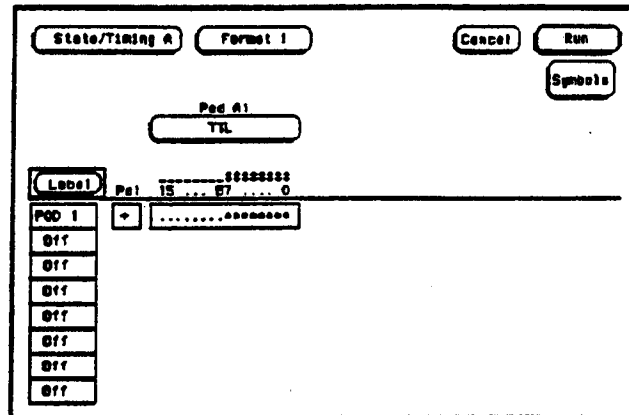

Figure 3-36. Format Screen
4. Assign the appropriate eight bits of the pod under test in the Bit Assignment field, then assign the pod to a label in the Format screen as shown in figure 3-36.